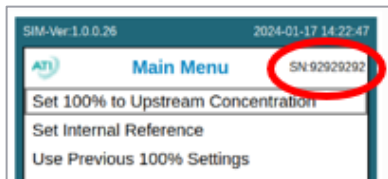

Figure 6. Serial number for factory password reset
Step 2. You must provide the serial # of the iProbe Plus, found at the top of the screen (Figure 6)